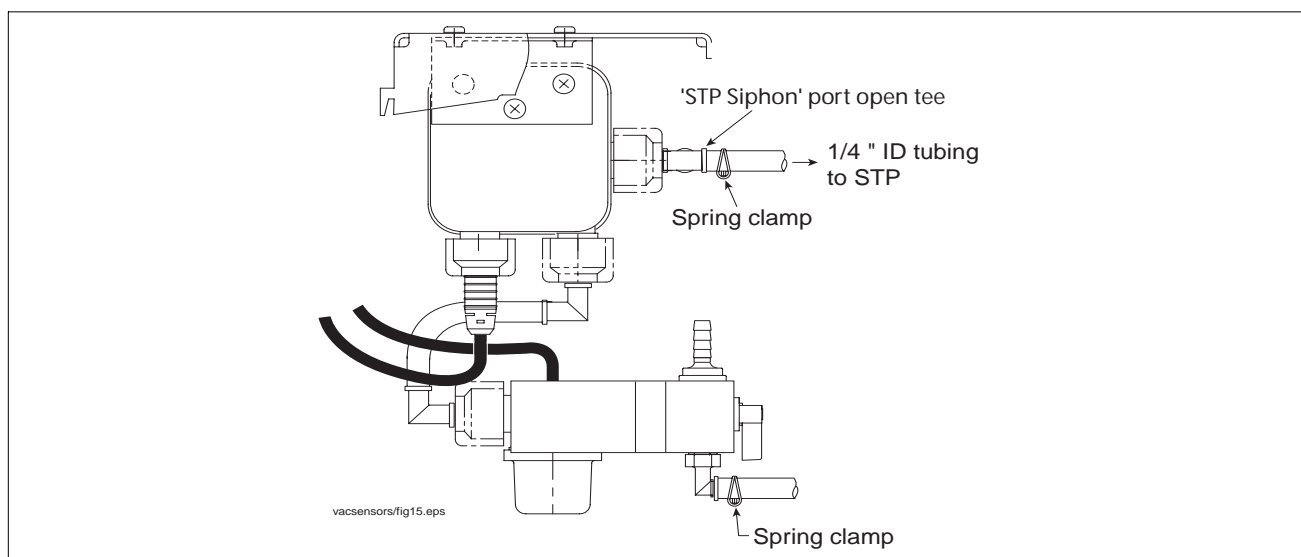

Figure 13. Connecting vacuum tubing from pump siphon port to Vac Sensor
3. Measure a length of 1/4" ID tubing to connect 1/4" ID barbed tubing fitting in the siphon cartridge port and the vacuum input open tee of the Vac Sensor (see Figure 13). Plan enough tubing to avoid sharp bends in it or stretching it. Cut and install this tubing and secure tubing ends with spring clamps.